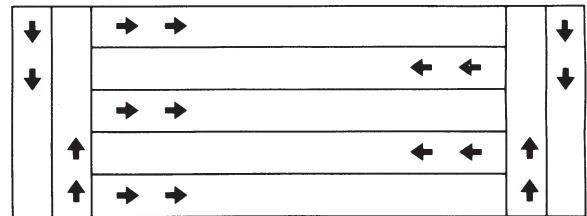

FIGURE 26
4. For easiest application, first apply material across both ends of the area. Two or three passes on each end are sufficient. Then apply material back and forth as shown. Use the end areas for turning around, shutting off the spreader as you enter the end areas and turning the spreader on again as your leave the end areas for your next pass. See figure 26.